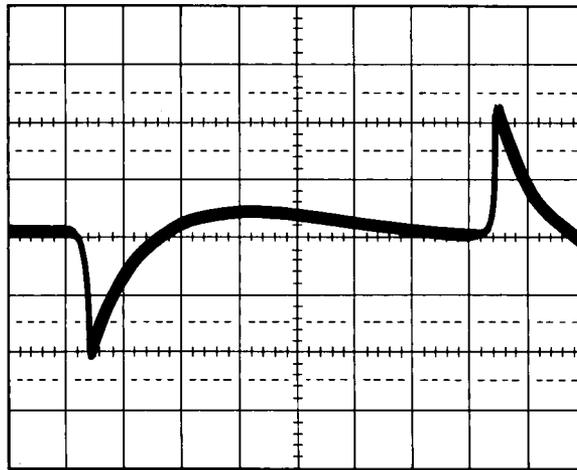

Figure 4-17. Pulse Modulation Video Feedthrough Waveform
6. Adjust the oscilloscope channel A vertical sensitivity and vertical position to view the video feedthrough signal similar to Figure 4-17.